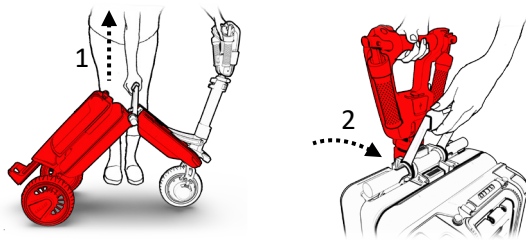

Figure 39
6. Using the main handle to pull the center upwards and towards the rod (1) until it clicks and locks in place (2). (See Figure 39).